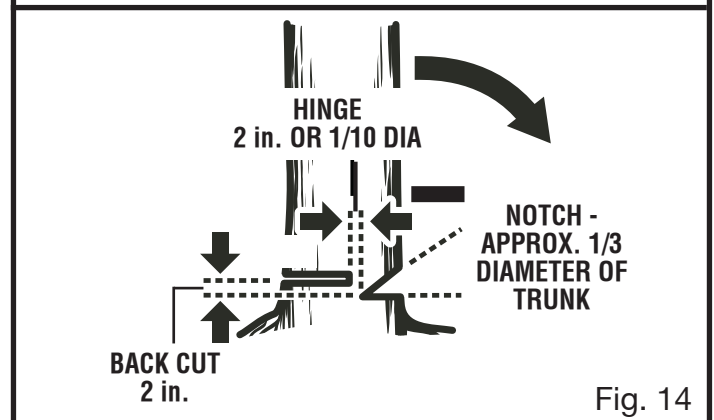

Fig. 14
- **Notched Undercut.** Cut a notch about 1/3 the diameter of the tree, perpendicular to the direction of fall. Make the cuts of the notch so they intersect at a right angle to the line of fall. This notch should be cleaned out to leave a straight line. To keep the weight of the wood off the saw, always make the lower cut of the notch before the upper cut. See *Figure 14*.
- **Felling Backcut.** The backcut is always made level and horizontal, and at a minimum of 2 in. above the horizontal cut of the notch. See *Figures 14 - 15*.
- Never cut through to the notch. Always leave a band of wood between the notch and backcut (approximately 2 in. or 1/10 the diameter of the tree). This is called “hinge” or “hingewood.” It controls the fall of the tree and prevents slipping or twisting or shoot-back of the tree off the stump. See *Figures 14 - 15*.